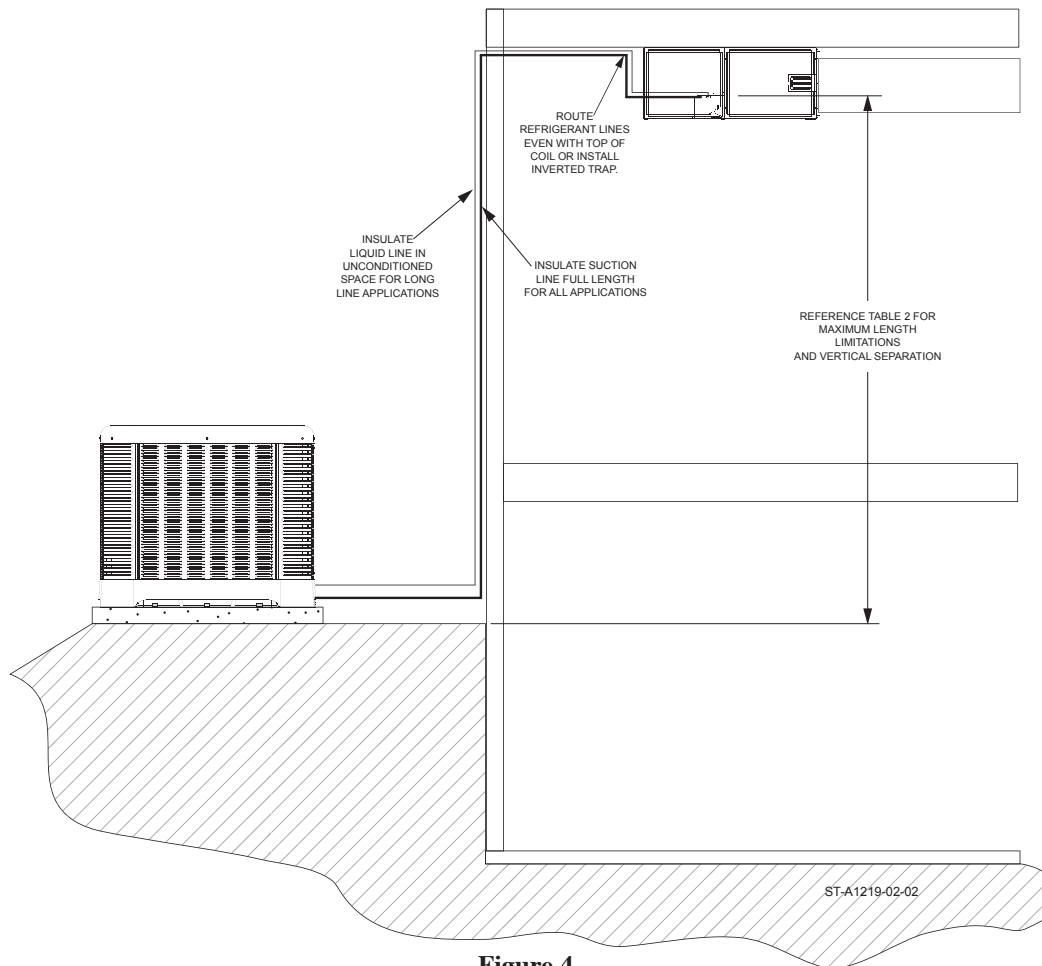

Figure 4
- Refrigerant lines should be routed even with the top of the indoor coil or an inverted trap is to be applied (refer to Figure 4).